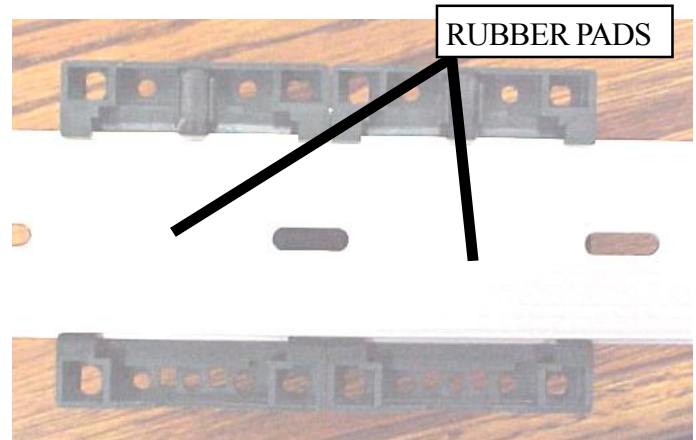
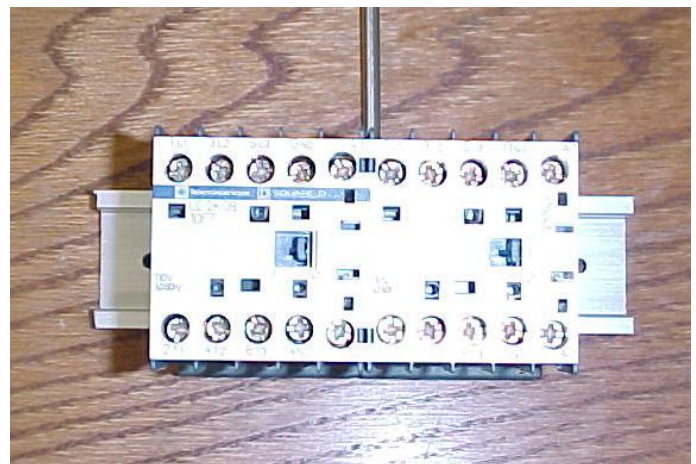

FIGURE 1 - Rubber Pads
FIGURE 2 - Relay in Center of Din Rail
STEP 2: Attach relay to Din Rail (# 1514-DR) by sliding relay up against rubber tabs (FIGURE 1) then snap in relay. Adjust relay to be in the center of Din Rail. (FIGURE 2)
STEP 3: Attach mounting bracket (# 1514-BR) to 12x12 enclosure by lining up holes in mounting bracket with (4) existing holes in 12x12 enclosure.